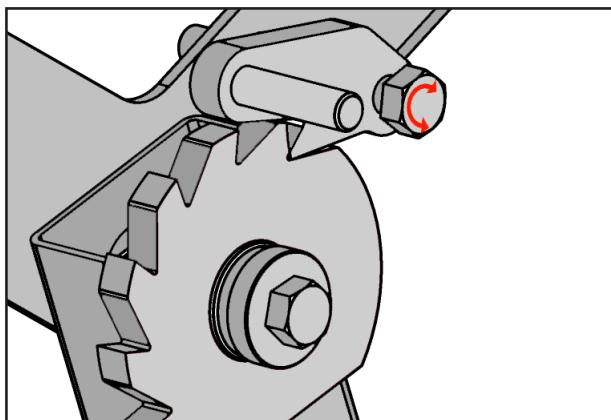

Figure 11 – Cradle fastened by locking lever.
- 2) Remove the latch shown in figure 11 Then, activate the electrical winch to lower the cradle until reaching such a height to comfortably place the grain bag on the lift (70 cm aprox).